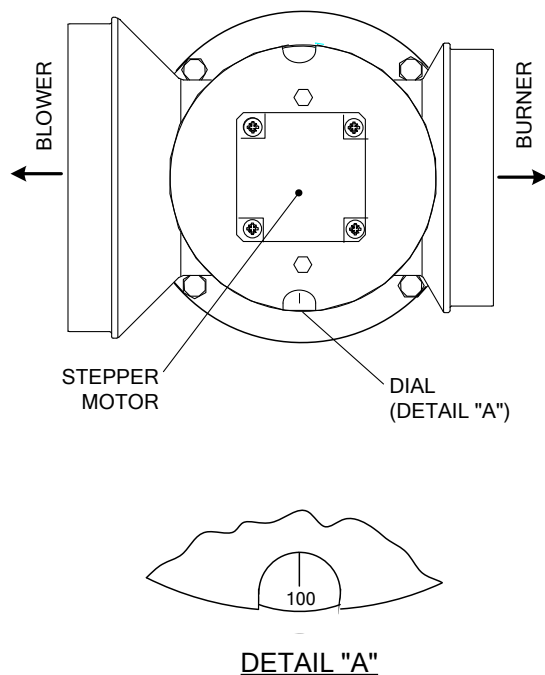

Figure 3-4.
- (b) Air/Fuel Valve rotates to full-open purge position and closes purge position switch. The dial on the Air/Fuel Valve (Figure 3-4) will read 100 to indicate that it is full-open (100%).